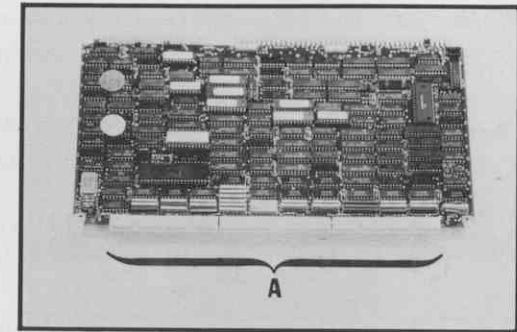

Figure 94 Xylogics 450 Disk Controller
- 6.34** Locate the Xylogics 450 disk controller included in your Upgrade Kit, as shown in Figure 94. If you did not receive a Xylogics 450, contact Sun Field Support at (415) 960-1300 immediately.